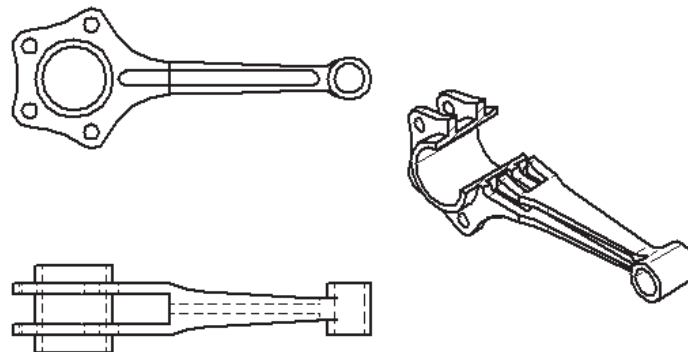

Figure 11-17 Isometric broken section view
4. Select the isometric view (pictorial view) to generate the broken-out section view, as shown in Figure 11-17.